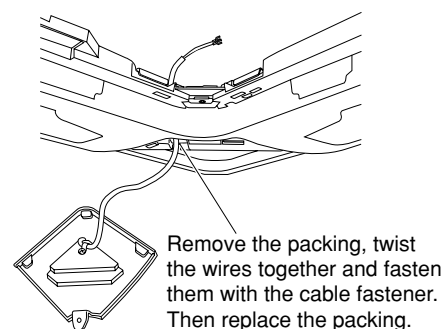

Fig. 11-3
- (3) The square hole used for the panel wiring is filled with packing (sponge material) used for insulation.* Remove the packing, then pass the wiring from the wireless receiver unit through the grill. Twist the wires together and use a cable fastener to fasten them and fix with screw, then replace the packing in the hole as it was before. (Fig. 11-3)
- (4) After completing wiring as described in "Wiring the Receiver Unit" on the next page, twist the wires together and use a cable fastener to fasten them, leaving a length of wiring that is long enough to permit removal of the adjustable corner cap. (Fig. 11-3)